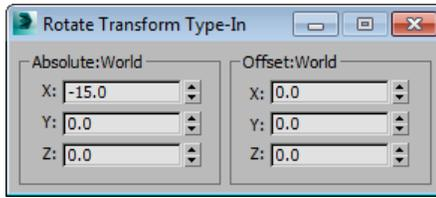
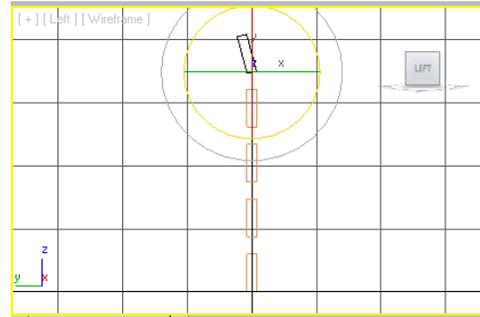

Figure 2-59 The *Rotate Transform Type-In* dialog box
Figure 2-60 The horizontal back support005 geometry after rotating in the Left viewport
- In the **Absolute:World** area, set the value **-15** in the **X** spinner, as shown in Figure 2-59 and then press the ENTER key; *horizontal back support005* gets rotated, refer to Figure 2-60. Now, close the **Rotate Transform Type-In** dialog box.